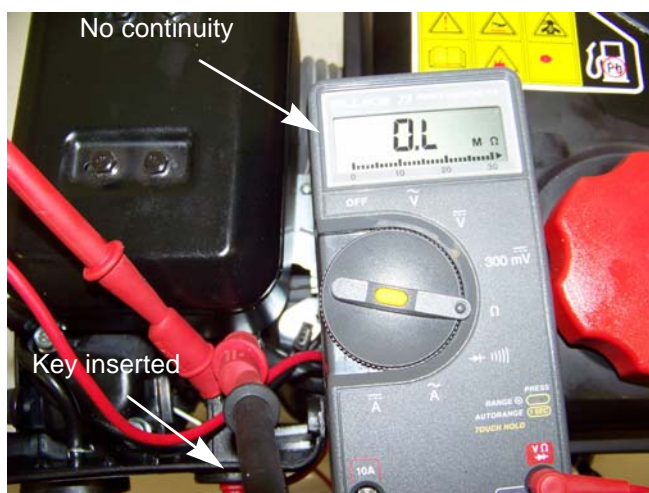

Figure 7.6
- With the key fully inserted, the multimeter should not show continuity. See Figure 7.6.